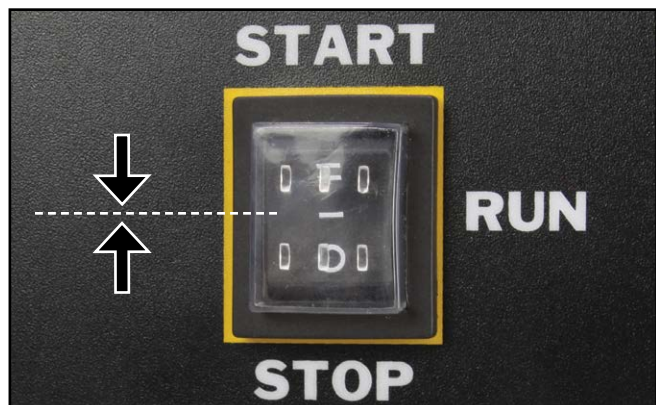

Figure 24 – Engine Control Switch in the RUN Position
- Push and hold the engine control switch in the **START** position until the engine starts. Once the engine starts, release the engine control switch; the switch will automatically move into the central **RUN** position (see Figure 24).